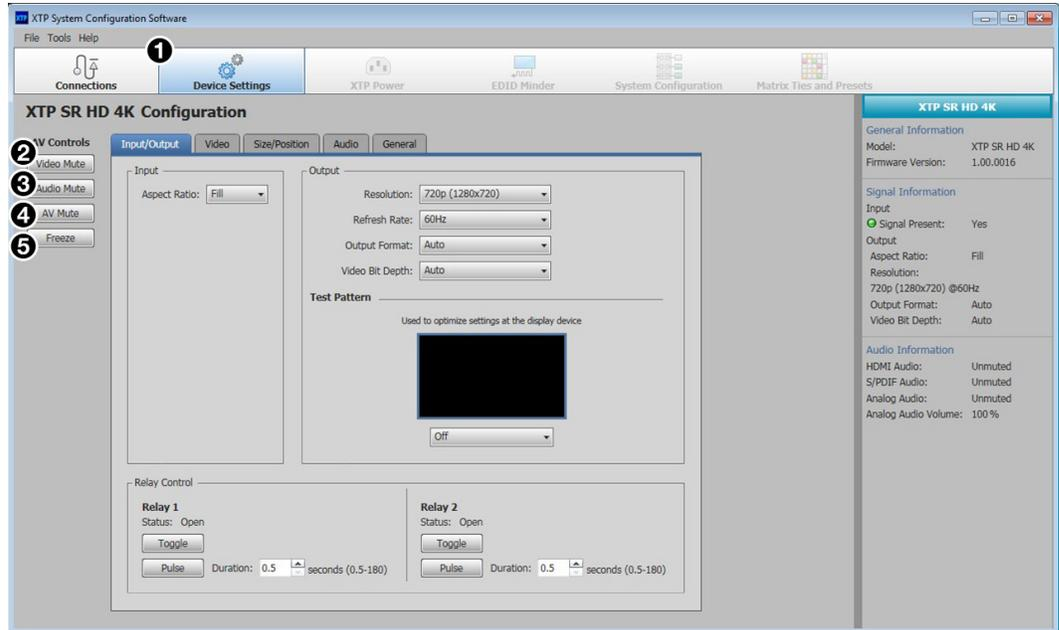

Figure 31. Device Settings Screen
The Device Settings screen allows a user to view and edit various device settings for the receiver directly connected to the PC running the XTP software. Click the **Device Settings** icon (see figure 31, ❶) on the Global Navigation Bar to open the Device Settings screen.